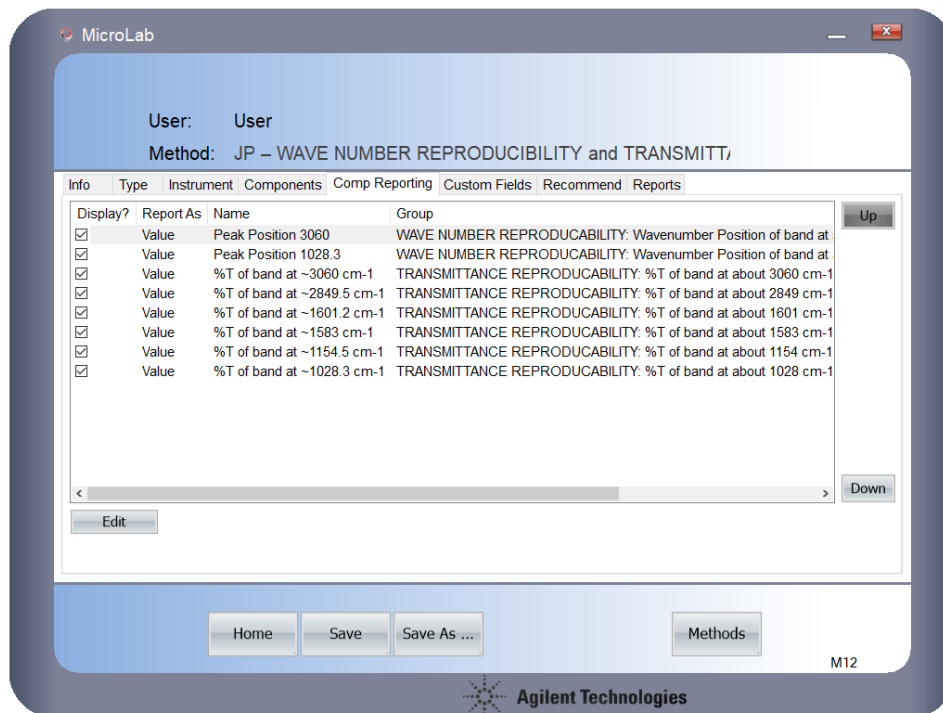

Figure 14. Comp reporting tab for the Wave Number Reproducibility and Transmittance method
- 7 Use the **Up** and **Down** buttons to bring the components in order seen in Figure 14: